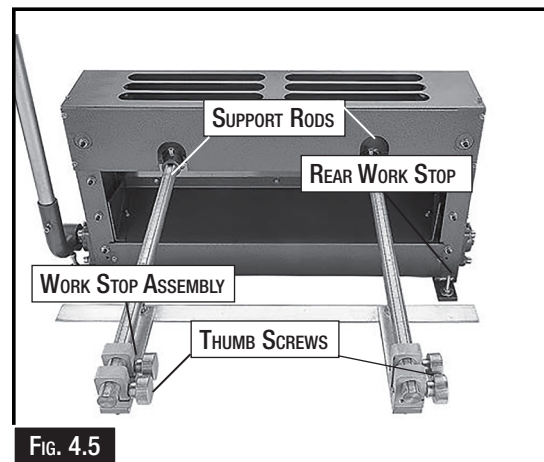

FIG. 4.5
1. Slide the work stop adjustment assembly evenly along the support rods so the rear work stop's leading edge is at the approximate required distance from the cutting edges of blades (Fig 4.5).
2. To keep the rear work stop assemblies secured in the desired position, tighten the thumbscrews. (Fig. 4.5)